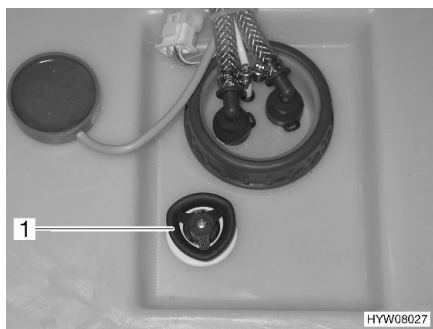

Fig. 100 Water tank with handle
- Turn the handle (Fig. 100,1) on the water tank in an anticlockwise direction as far as possible beyond the resistance to fully open the drainage opening.